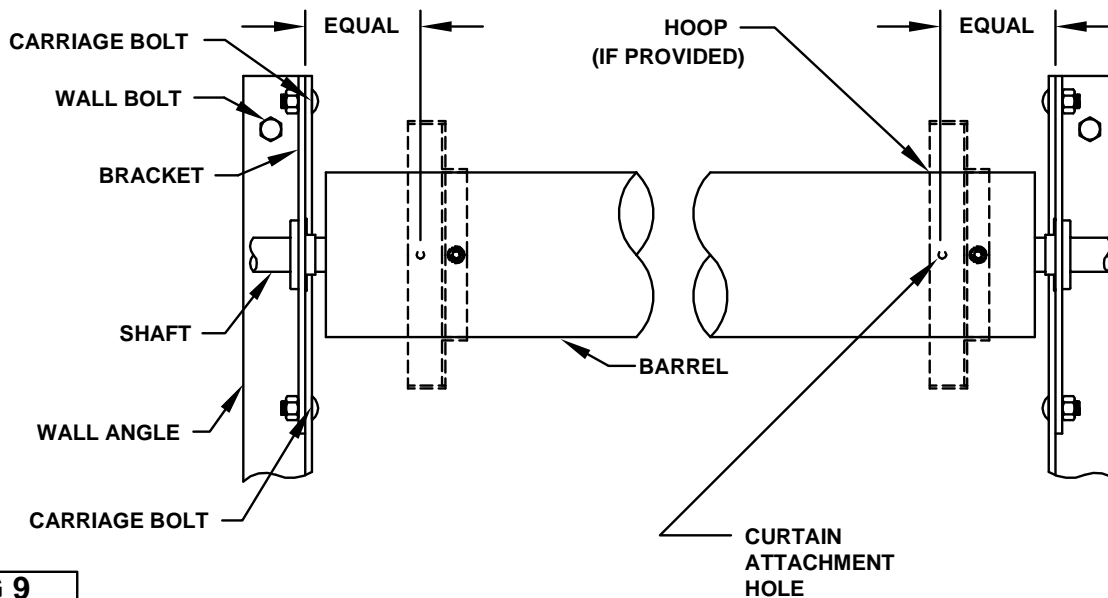

FIG 9
- 3) Using the carriage bolts as shown in FIG 9, bolt the brackets to the wall angle.
- 4) Position the barrel, with an equal distance from the first curtain attachment hole, to the inside face of both brackets. See FIG 9. Assemble bracket components according to appropriate barrel & bracket assembly figure.